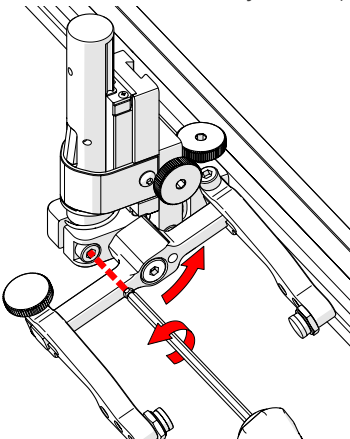

Fig. 132 - Loosen 3 mm screw
2. Using the supplied 3 mm hex driver loosen the transverse adjustment screw (*Fig. 132*) and rotate the yoke about the vertical shaft achieving the desired angle.